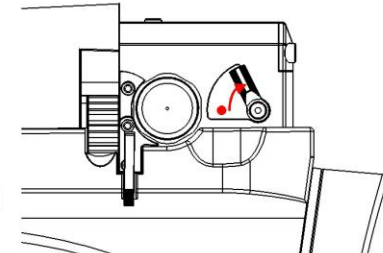

FIG.3
- ❖ Push the safety lever in the direction of the arrow to the OFF position, the rifle can be fired. (FIG.3)